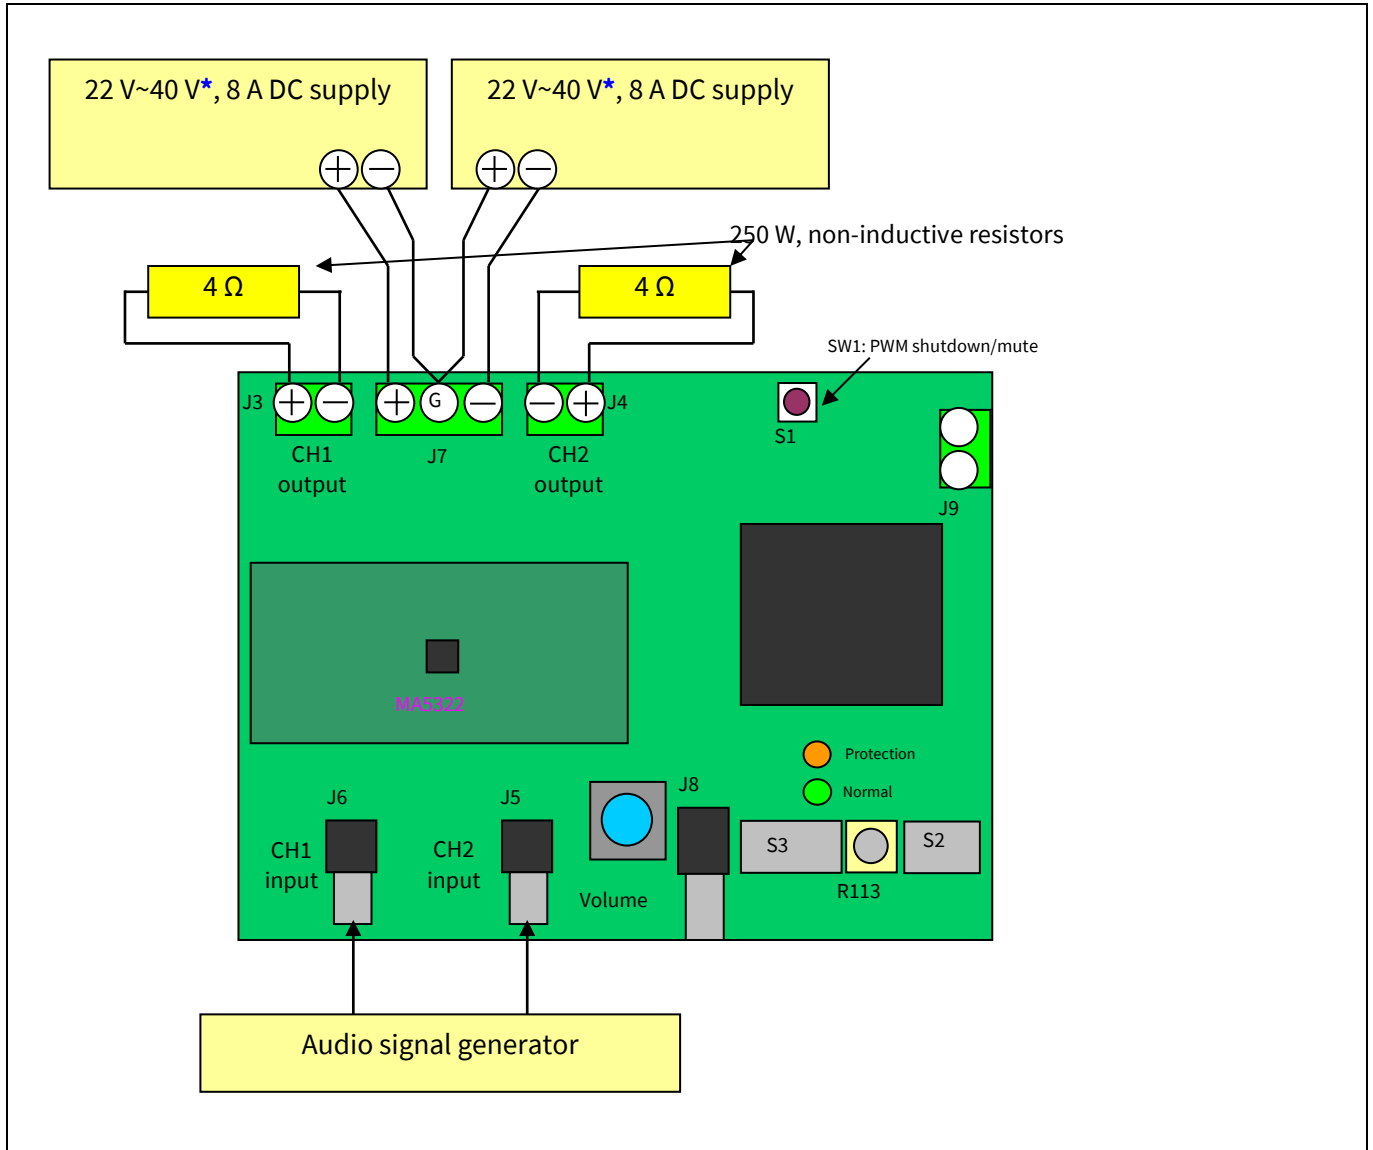
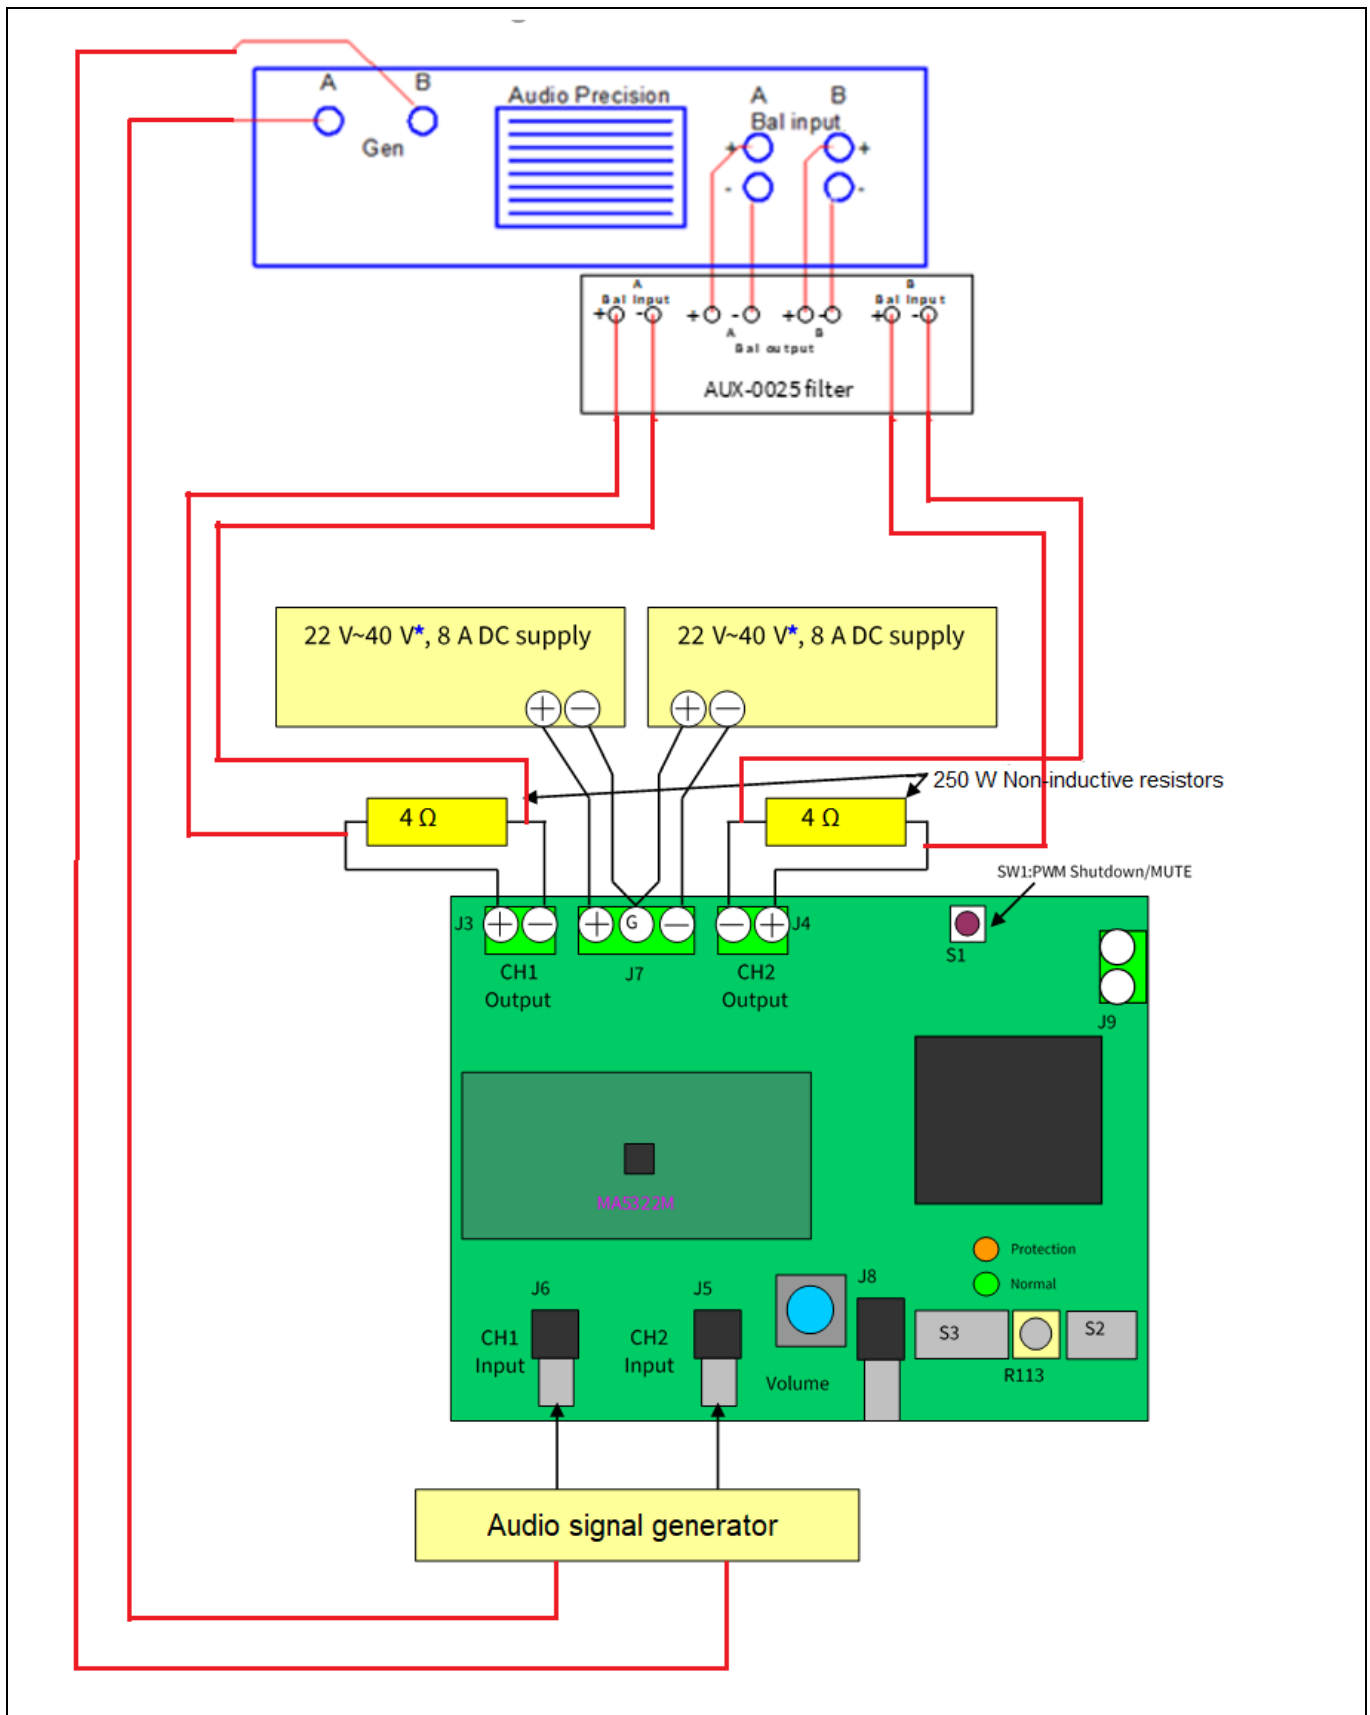

Figure 3 Typical connectors
Figure 4 Audio analyzer connections
1. Connect 4  $\Omega$  250 W dummy loads to output connectors (J3 and J4, as shown in Figure 3) and parallel it with the input of the audio precision (AP) analyzer.
2. Connect the audio signal generator (ASG) to J6 and J5 for CH1 and CH2 respectively (AP).
7. Connect the dual power supply to J7, as shown in Figure 3 or Figure 4.